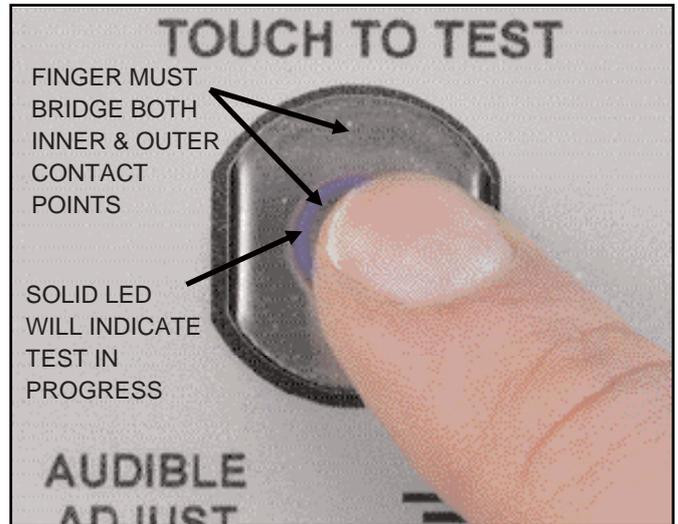

Figure 9. Bridge test contacts with finger
- III. To start the test, the operator's finger must bridge both the Inner and outer contacts when touching the test contact. The circling blue light will become solid to indicate that a test has been activated. Hold down for up to 3 seconds while flexing coil cord area near resistor. (See Figure 9) NOTE: Often the initial intermittency will be failure of strain relief connection to resistor as simulated by ESD S1.1-1998 paragraph 5.7 Bending Life Test.